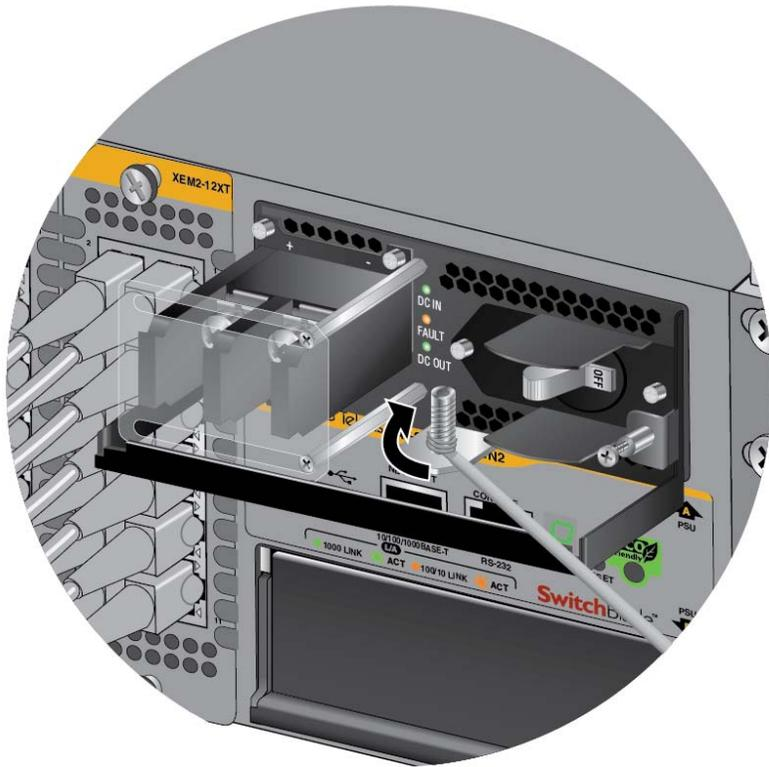

Figure 76. Attaching the Bare Grounding Wire to the Grounding Post
4. Wrap the grounding wire clockwise around the base of the grounding post, as shown in Figure 76 on page 129.